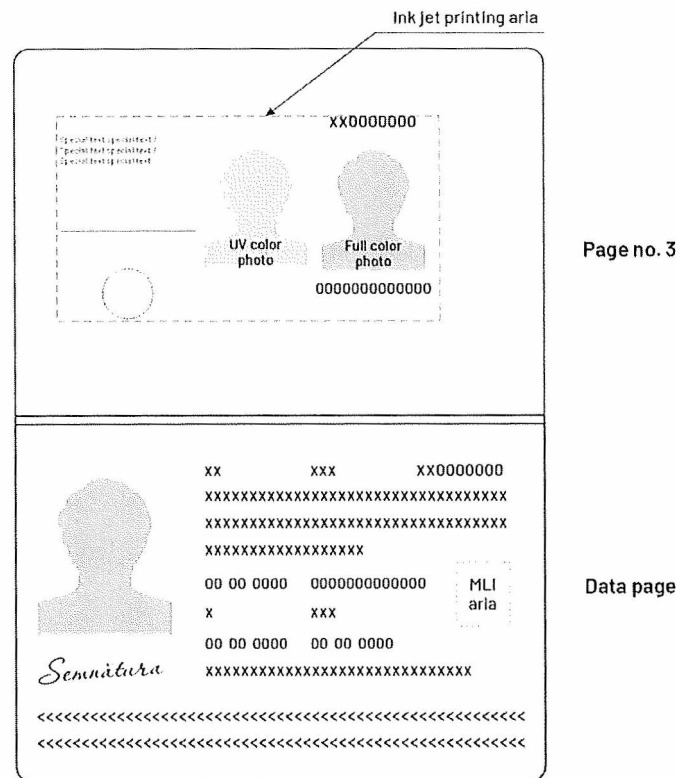

Figure 2 Layout from shared link during tender clarification phase <https://asp.cloud.qov.md/index.php/s/ack8JcwbtifEHnE>
The offered BMPro Systems will be configured with the below functionalities base on the tender requirements stated in Annex 1.1, to personalize the shared layout, provided by the Buyer during the clarification tender process. See Figure 2. The BMPro will personalize the defined layout with the required speed of 100 passport/hour.
The Chip Encoding Unit is configured with one (1) Smartware programming head for contactless encoding of the chip enabling an expected encoding time between 20sec and 25 sec for the shared layout (Figure 2). The system will be delivered with a chip encoding interface, allowing you to use your own or third-party encoding software.
The laser engraving unit applies the photograph, personal data and MRZ data onto the polycarbonate data page, being page 2 of the passport. This unit contains one (1) fiber laser of 30 Watt and can apply the MLI security feature. The information is engraved with a standard resolution of 600 dpi. See Figure 2.
The Inkjet Printing Unit can apply the photograph and personal data onto the observation page, being page 3 of the passport. This unit contains a DoD inkjet printer with industrial piezo electric printing heads, using UV curing inks CMYK(Cyan, Magenta, Yellow, Key=Black) to print observation page in full color and Monochrome UV ink as defined in passport layout provided by the buyer. See Figure 2.